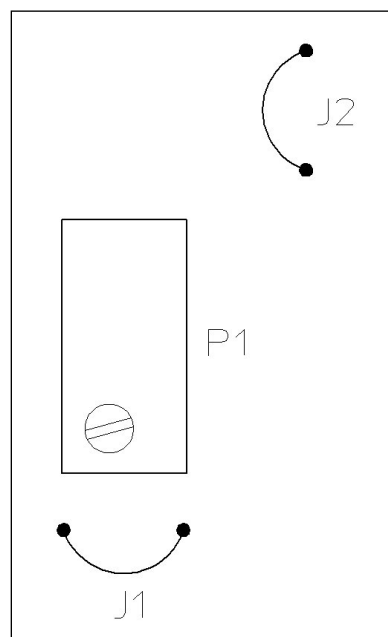

Figure 4. Jumpers 1 and 2
1. Remove cover plate to expose jumpers. Refer to **Figure 4**.